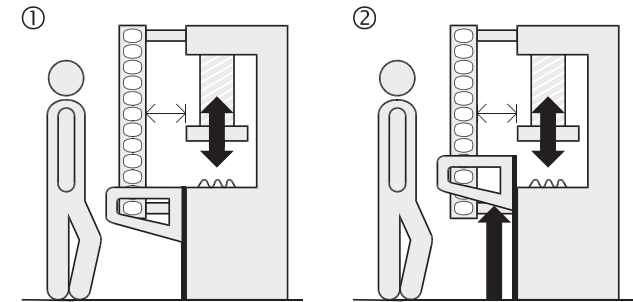

Figure 17: Schematic layout of the operation with reduced resolution (example: reduction by one beam)
Under reduced resolution, the light curtain ignores the interruption of 1, 2 or 3 adjacent beams. Objects which are not larger than specified in Table 12 may be moved through the light curtain without the light curtain changing to red (Figure 17, ❶ and ❷).